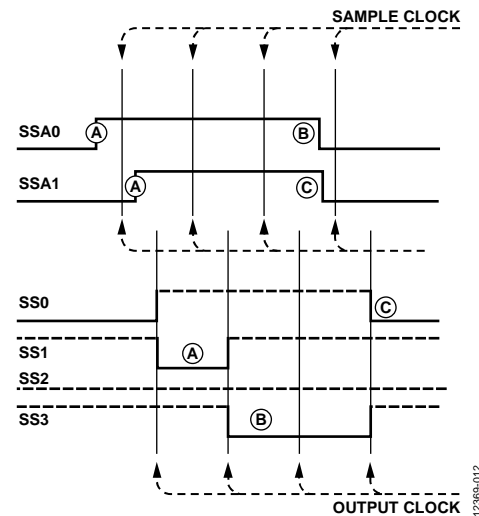

Figure 12. Mux Select Timing
Figure 12 illustrates the behavior of the SSA0 and SSA1 channels. This diagram assumes that  $\overline{\text{MSS}}$  is low and that SS0, SS1, SS2, and SS3 are pulled up.
The following details the mux select timing shown in Figure 12:
- Point C: This point in Figure 12 shows a clean transfer between SS3 being active and SS0 being active. The mux was designed to eliminate any short duration metastable states between any two selected outputs.